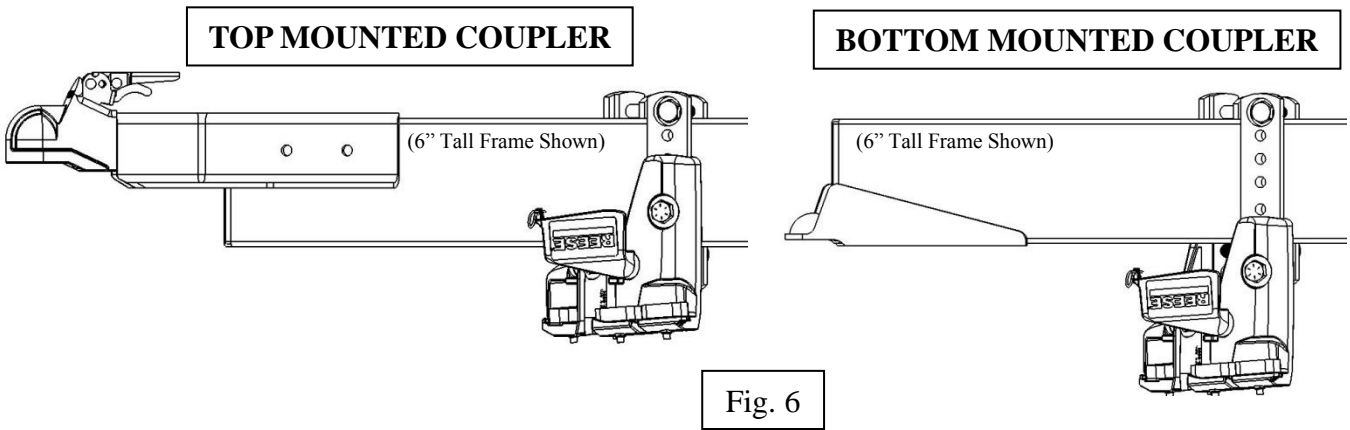

Fig. 6
9. Slide the **Adjustable Frame Bracket** onto the **T-Bar** to the corresponding height for top/bottom mounted coupler. For top mounted couplers, one threaded hole should be visible above the **Adjustable Frame Bracket**. For bottom mounted couplers, the **Adjustable Frame Bracket** mounting bolt should be fastened one bolt hole below the bottom bolt on the frame bracket (See Fig. 6).
Slide to applicable location shown in Fig. 6.